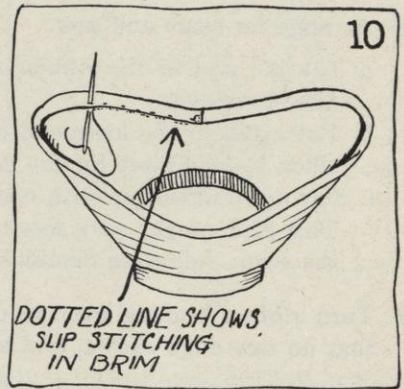

FIG. 10.
- f. Take a tiny stitch in the selvage and repeat Sections d and e (see Figures 9 B, C and D). You soon pass the point where you stick your needle through three selvages (the lap), (see note on two selvages in Section 8 b) but you continue to slipstitch in the same way, sticking your needle through one selvage (see Figure 10). Be sure to take tiny vertical stitches, in the grooves directly under the loops.